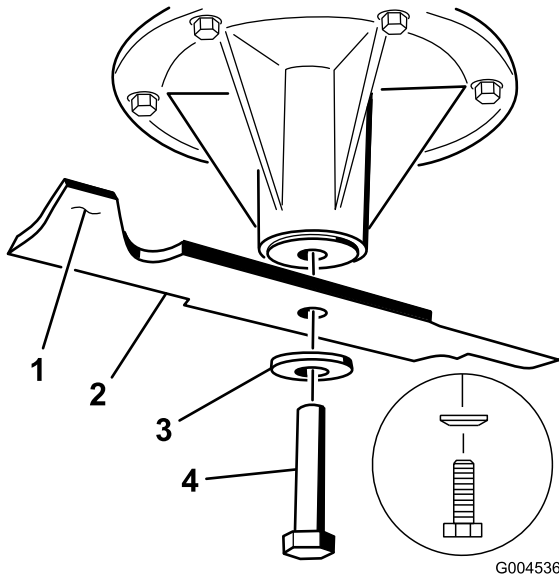

Figure 104
position, the blade is balanced and can be used. If the blade is not balanced, file some metal off the end of the sail area only (Figure 104). Repeat this procedure until the blade is balanced.
1. Install the blade onto the spindle shaft (Figure 104).
2. Install the spring disk and blade bolt. The spring disk cone must be installed toward the bolt head (Figure 104). Torque the blade bolt to 85-110 ft-lb (115-150 N-m).